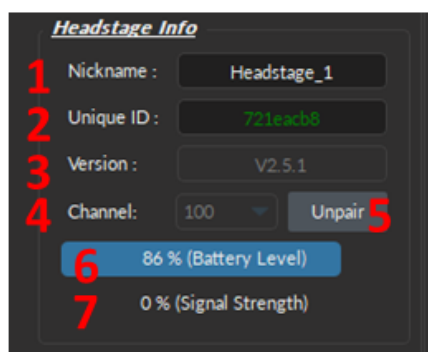

Figure 3.53: Acquisition View, Controls
The **Headstage Info** box (Fig. 3.53) displays the *EP Console*-specific elements which are important to pair, control and monitor the wireless headstage. The following elements are included
1. The **Nickname** text-box (Fig. 3.53, 1) allows the user to change the name used for the connected headstage.
2. The **Unique ID** box (Fig. 3.53, 2) displays the unique ID sequence associated with the headstage currently in use.
3. The **Version** box (Fig. 3.53, 3) displays the headstage firmware version.
4. The **Channel** drop-down list (Fig. 3.53, 4) shows the channel currently in use by the headstage. When using two headstages, the channel must be different for each headstage.
5. The **Pair** button (Fig. 3.53, 5) is used to pair an active headstage to a console. When a headstage is paired, it becomes the **Unpair** button, which unpairs the active headstage associated with the given antenna.
6. The **Battery Level** bar (Fig. 3.53, 6) displays the headstage battery level, in %, at all times.
7. The **Signal strength** bar (Fig. 3.53, 7) displays the percentage of data packets lost during the WiFi transmission. If the signal strength is acceptable (100-76%) the bar appears blue. If the signal strength is low (75-50%), it will appear yellow. If the signal strength is critically low (<50%), it will appear red. Note that the signal will weaken if the animal/headstage is too far from the antenna or if there are obstructions between them.